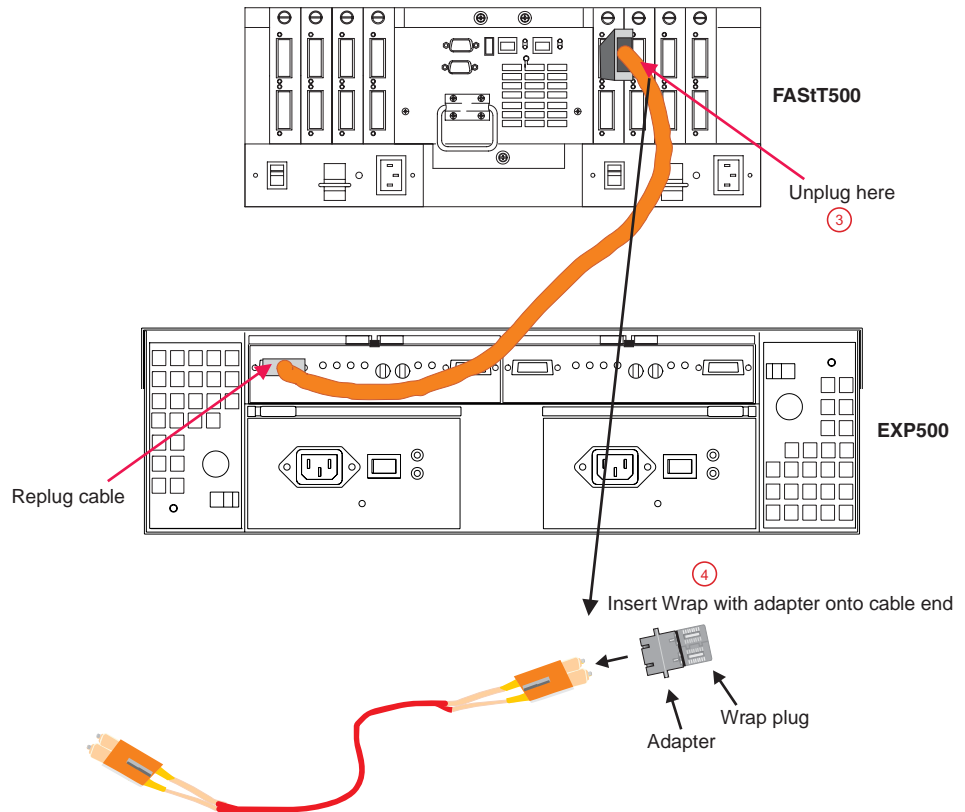

Figure 39. Insert wrap plug with adapter on cable end
4. Insert a wrap plug with an adapter onto the cable end. See Figure 39 on page 103.